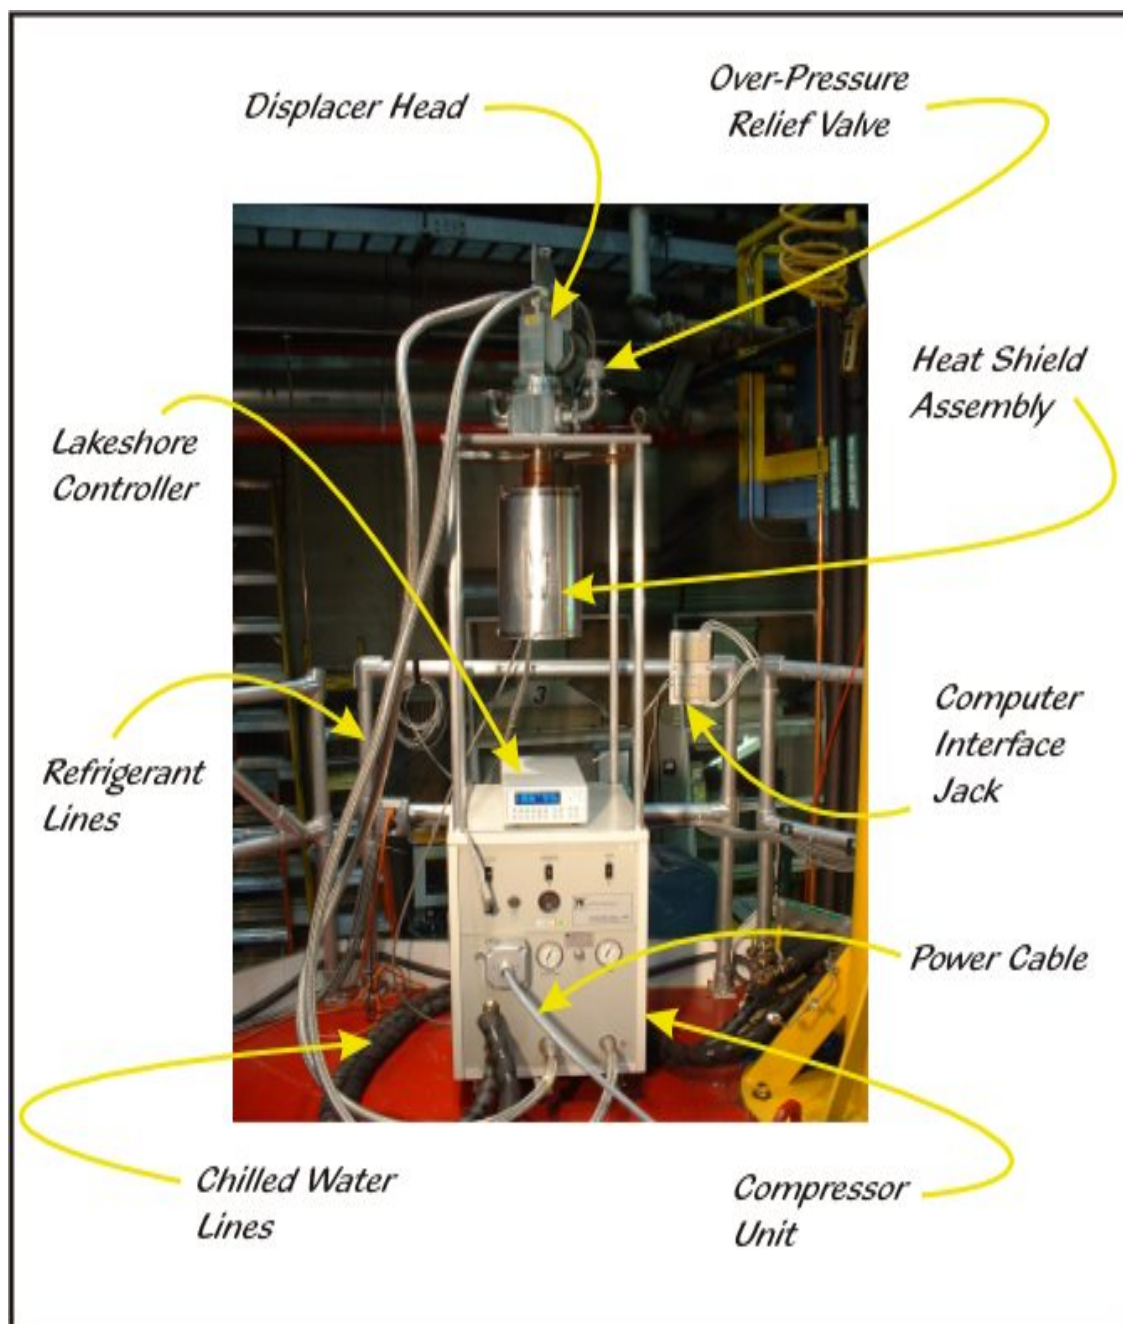
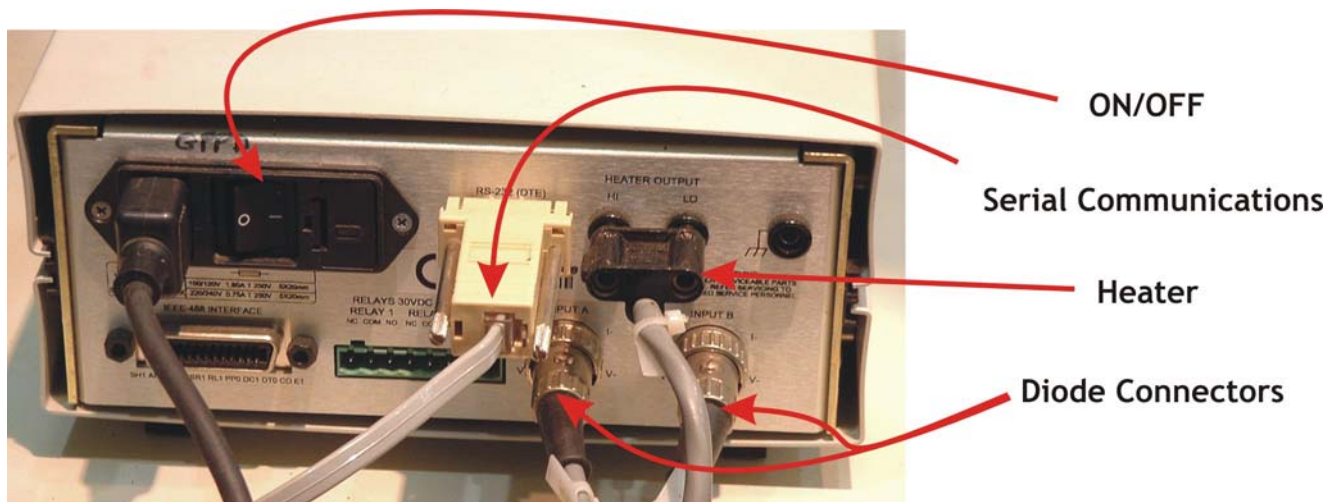

Figure 1: GPPD Dedicated CCR Device with major components identified.
Figure 2: Rear of LS332
Figure 1 below the shows GPPD dedicated CCR device ready for deployment .
3. Verify that the serial communications cable is plugged in at the adapter on the rear of the LS332 and at the Computer interface jack. See Figure 1 and Figure 2.